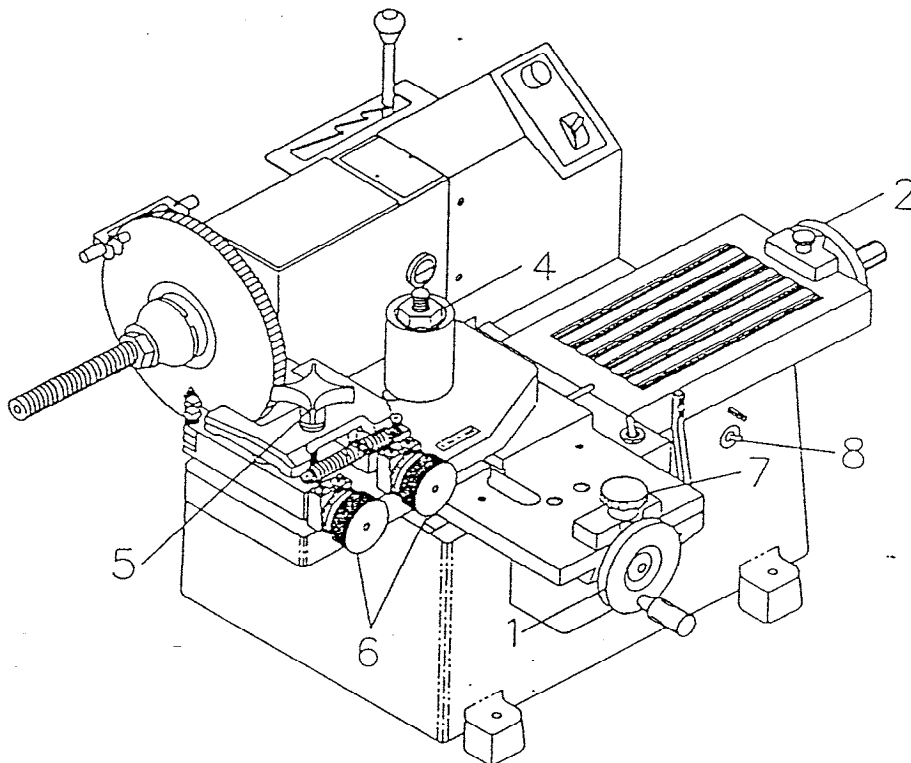

Fig.9 Lathe controls for refinishing discs
B. Rotate both cross-slide and main-drive carriage feed handwheel(s) (1 and 2, Figure 9) inward or outward to position the cutting tool bits so that the rotor is centered between them.
NOTE: Be sure the cutting tool bits will travel over the full surfaces of the rotor before the automatic feed switch (3, Figure 9) shuts off and stops the travel of the carriage.
C. Tighten rotor turning attachment center post locking nut firmly, (4, Figure 9).
B. Turn the cross-slide carriage feed handwheel (1, Figure 9) and move carriage in until the cutting tool bits are positioned over the braking surfaces of the rotor.
C. Turn tool positioning knob (6, Figure 9) on one side, until the cutting tool bit touches the surface of the rotor. Set the cutting tool bit on the other side of the rotor the same way.
E. With depth of cut set, tighten the tool holder clamp screw (5, Figure 9).
F. Tighten the carriage feed locking knob (7, Figure 9) and turn the automatic carriage feed switch "ON" (3, Figure 9).